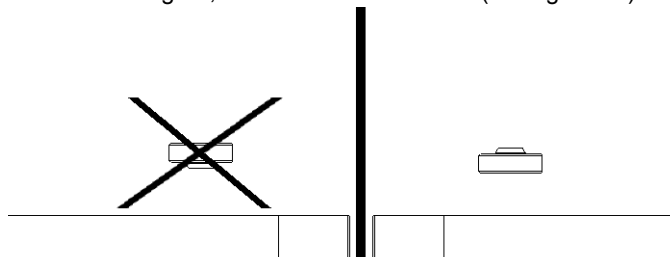

figure 30
- 8 Replace the float, taking care to respect the orientation shown in the figure, and the fork attachment.(see figure 30)